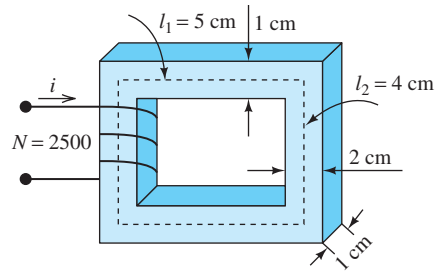

FIGURE P12.12 Magnetic core.
- 12.12 (B) Find the reluctance of the core given in Figure P12.12 if $\mu_r = 1000$.